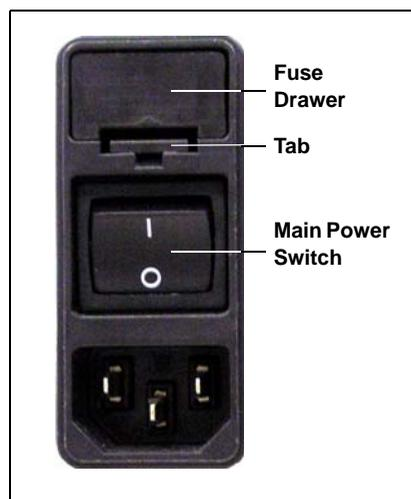

Figure 5-27. Fuse Drawer
2. The fuse drawer is located above the main power switch (see Figure 5-27). A small tab locks the fuse drawer in place. Using a small screwdriver, press the tab *in* and *then up* to release the fuse drawer.